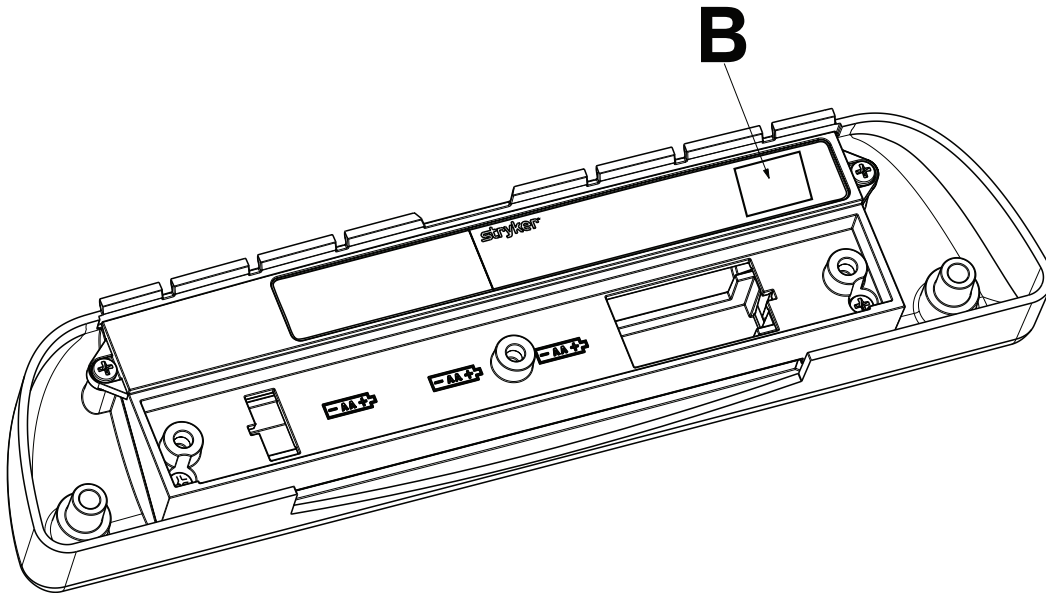

Figure 3 – RCM label location
The RCM label (B) is located on the backside of the product (Figure 3).